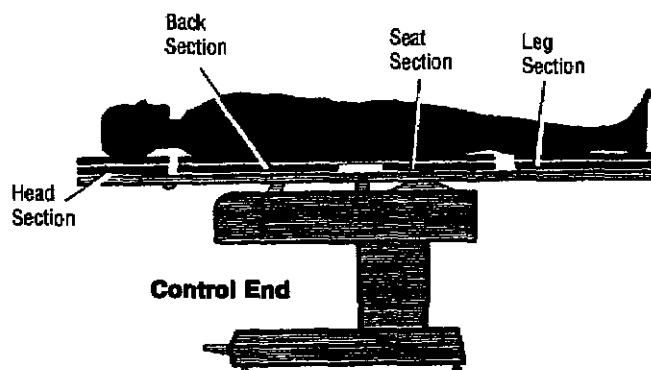

Figure 2-2. Normal Patient Orientation
- Do not extend (lengthen) the patient support surface beyond that shown (refer to Figure 2-2).